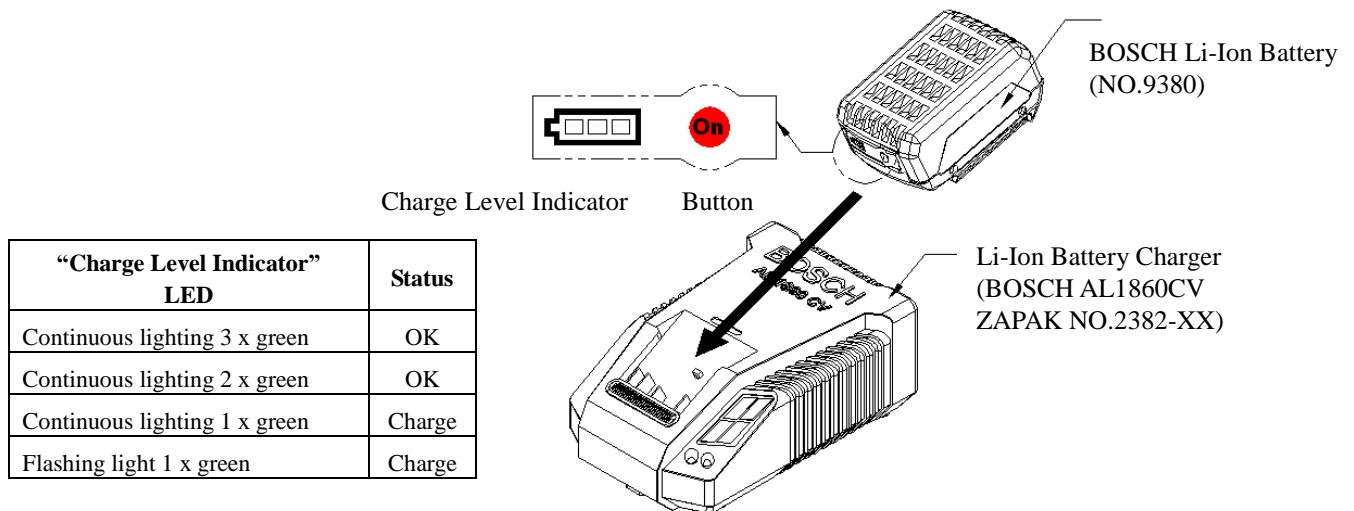

FIGURE 4. Illustration of Inserting Battery onto Charger
Refer to FIGURE 4 to insert the battery into charger (Please refer and follow the safety instruction and operation of the battery and charger user manual.)
- * Each BOSCH Li-Ion battery (No. 9380) is equipped with Charge Level Indicator. Press button to check the status of charge level condition (capacity), as shown on Figure 4 (*For safety reasons, it is only possible to check the charge condition when the tool is at a standstill.)